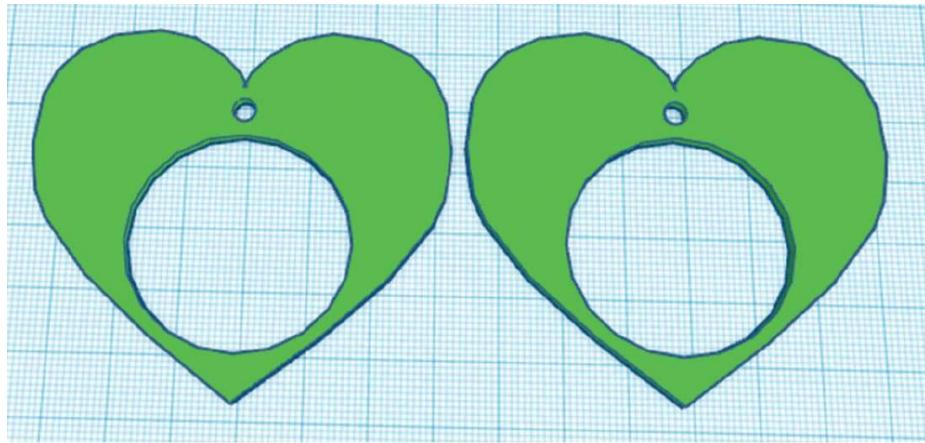

FIG. 6: Three shapes make up the earring design: a heart, a large hole, and a small hole.
1. The basic design of the earring we will make is shown in fig. 6. Note the basic elements: a solid shape of the earring, a big hole, and a small hole to attach the earring to the ear with a hook.